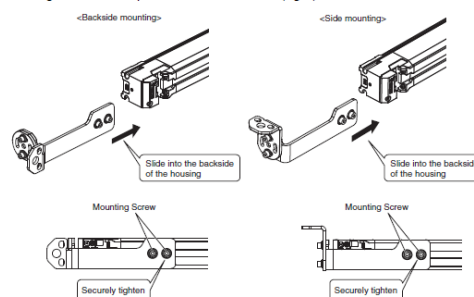

Fig. 2
2. Slide the Top/Bottom Bracket (1) in the grooves of the sensor housing. Adjust the Top/Bottom Bracket to the mounting position of the wall surface. Make sure to contact the whole body of the Top/Bottom Bracket (1) with the groove of the yellow area of the housing. Securely tighten the Mounting Screws to fix the Top/Bottom Bracket to the housing of the sensor. The recommended torque to tighten the Mounting Screws of the Top/Bottom Bracket is 3.0 N·m. (Fig. 2)